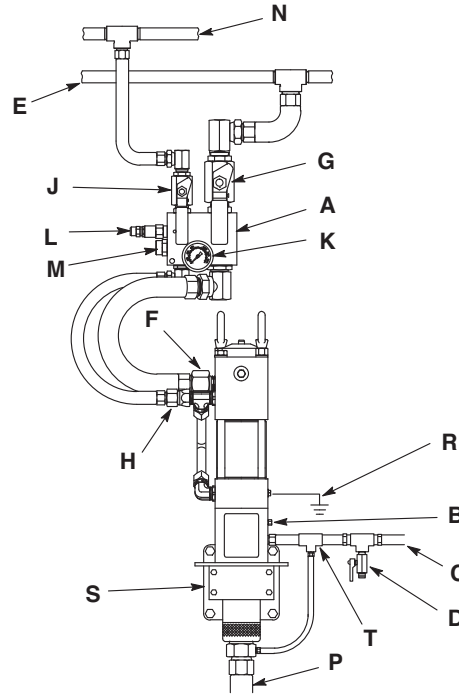

FIG. 2: Typical Installation
NOTE: The installation shown in FIG. 2 is only a guide. For assistance in designing a system to suit your needs. Contact your Graco representative.
Hydraulic Fluid Control: The hydraulic fluid control provides pressure regulator, and pump isolation. (FIG. 2)
2. Open the return line shutoff valve (H) first, and slowly open the hydraulic supply line shutoff valve (K). (FIG. 2)
3. Adjust the hydraulic inlet pressure from 500 to 1500 psi (3.5 to 10.3 MPa, 35 to 103 bar) with the regulator control adjustment (M) on the hydraulic fluid control (A). Increasing the inlet pressure increases the outlet pressure. Decreasing the inlet pressure decreases the outlet pressure.